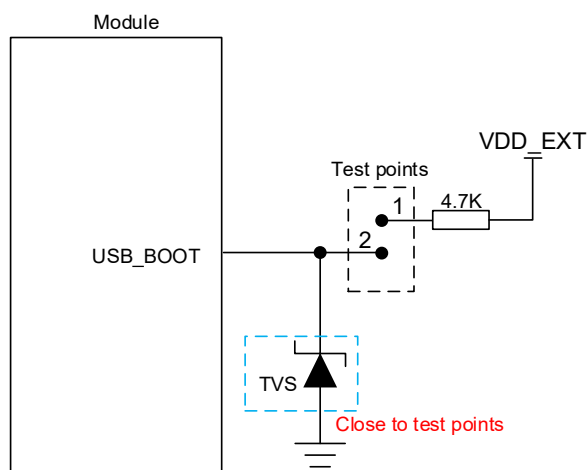

Figure 19: Reference Circuit of USB_BOOT Interface
1. If you need to manually force the module to enter download mode, directly connect the test points shown in **Figure 19**.
4.3. (U)SIM Interfaces